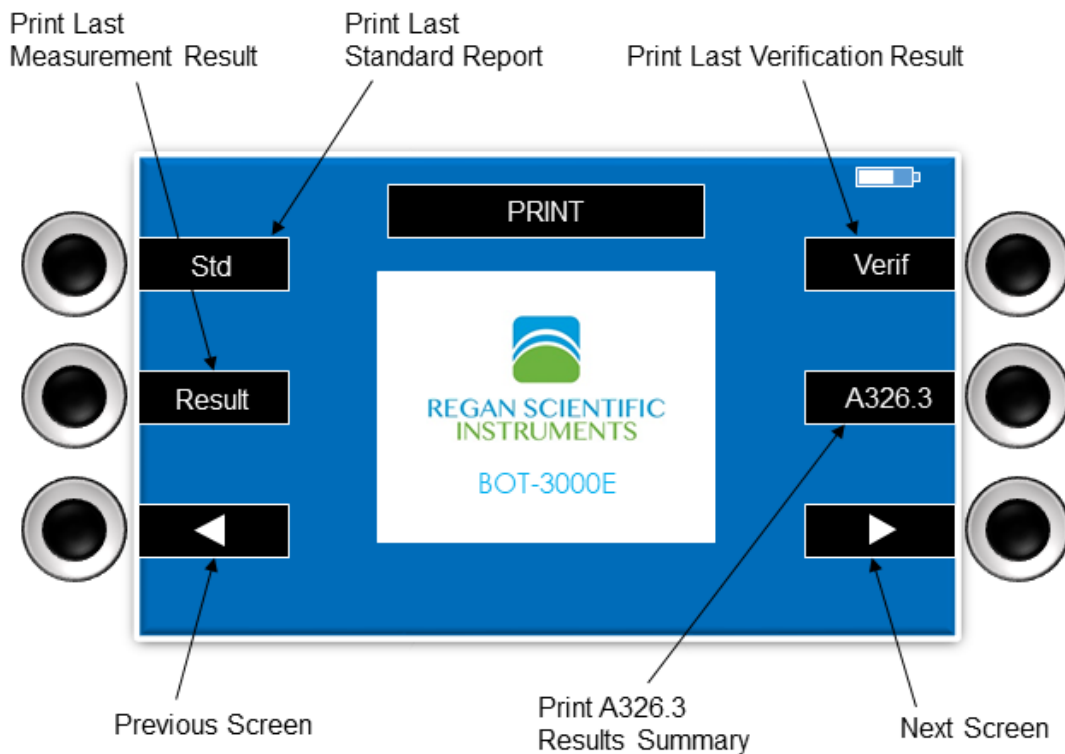

Figure 7
- Hardcopies of the most recent test results, calibrations, and verifications may be obtained from the “PRINT” screen, or immediately following a test run (Fig.7).